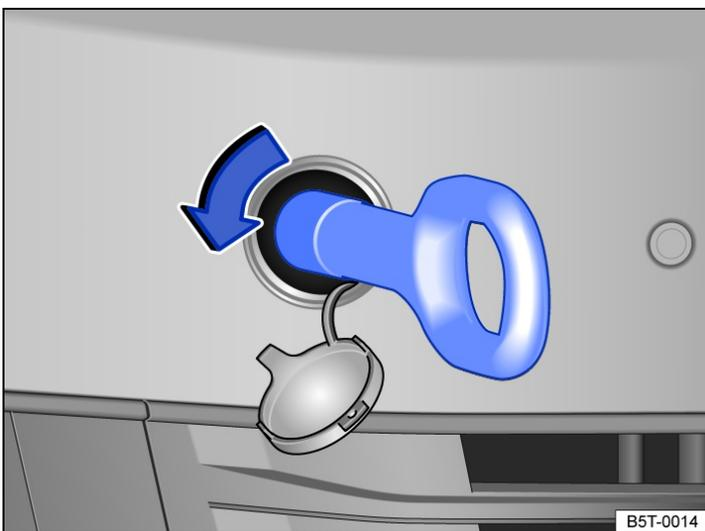

Fig. 2 In the right front bumper: Screw in towing eye.
4. Rotate the towing eye in the direction of the arrow as far as possible to install it in the mount → fig. 2, → ⚠. Use a suitable object to tighten the towing eye completely and securely in the mount.